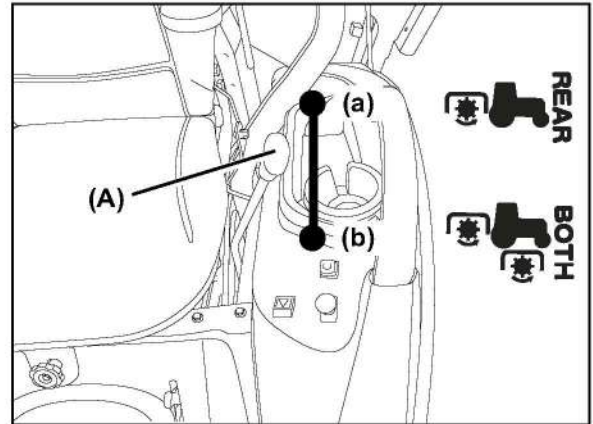

Fig 5-29
### (14) Mid-/Rear Power Take Off (PTO) select lever (Fig 5-29)